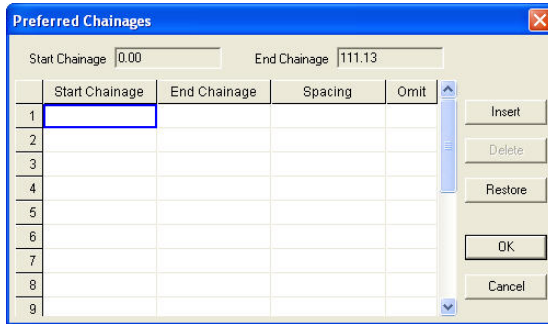

Figure 13-48. Preferred Chainages
- Modify the properties as needed, and click **OK**. The *Preferred Chainages* dialog box appears (Figure 13-48). Table 13-5 describes the **Catch Point** fields.